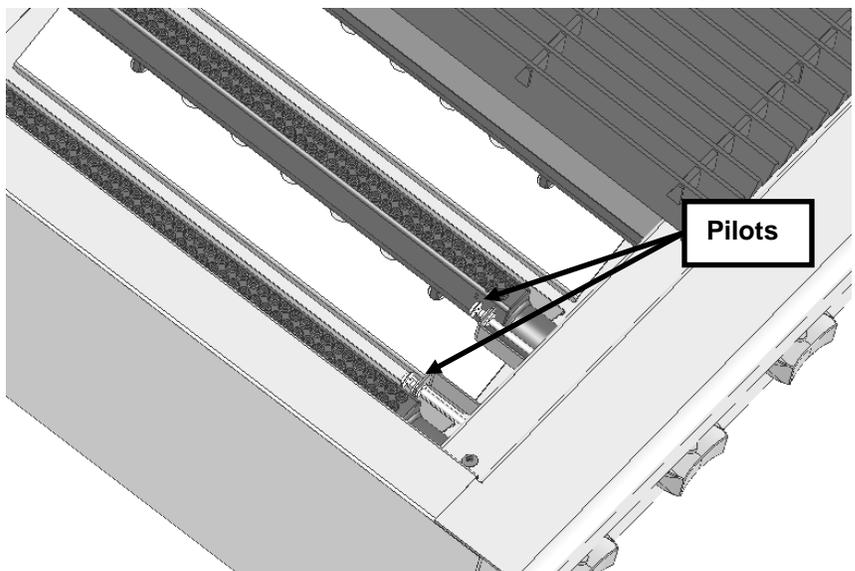

FIG. 6
1. See Fig. 6. Turn main gas shut-off valve and the individual burner gas valves OFF. Wait 5 minutes.